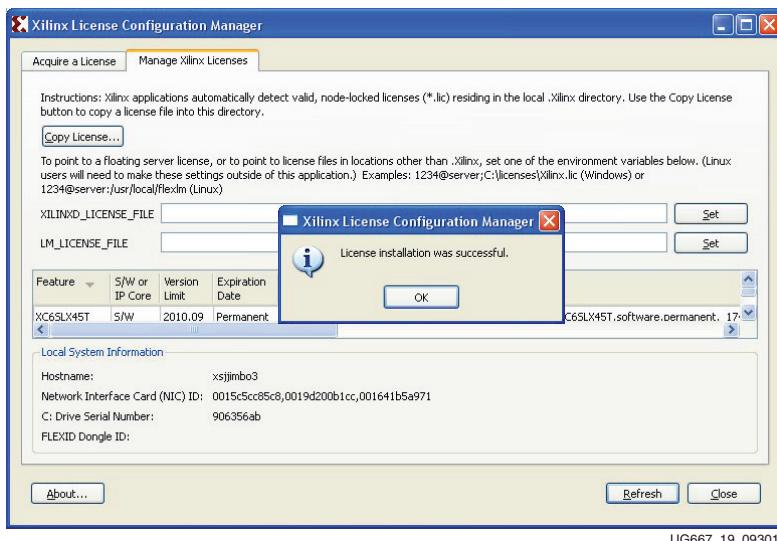

Figure 19: License Installation Successful
11. The ISE software license has now been successfully installed. Click **OK** on the Success Dialog (Figure 19) and close the Xilinx License Configuration Manager.